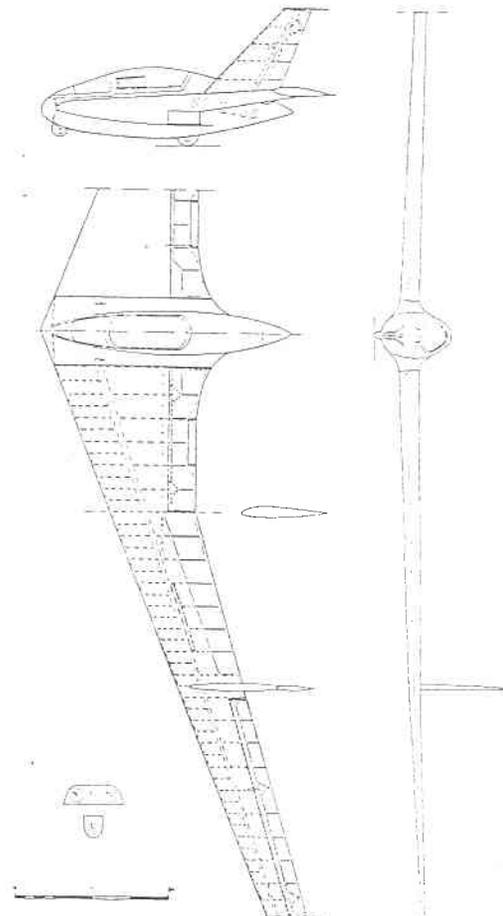

FIGURE 8. SZD-20x. Wampir 2 designed by Jan Dyrek, 1959. Maiden flight, Katowice, 1959 by test pilot Adam Zientek.
**3. SZD-13x "Wampir" (VAMPIRE) and SZD-20x "Wampir 2" (figure 8).**
This design was not actually built but provided many general ideas and technical background for its successor namely SZD-20x "Wampir 2" (Figure 8).